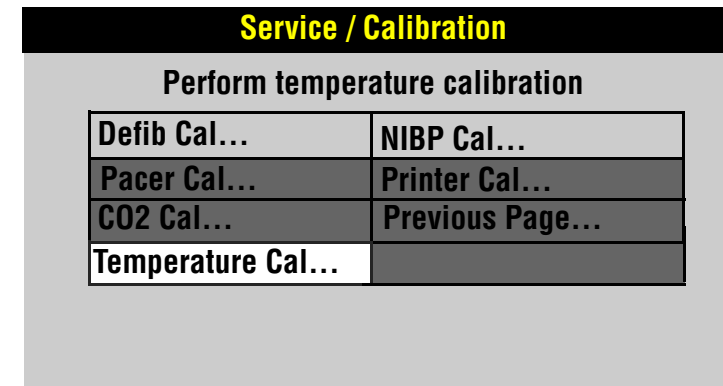

Figure 5.13—Calibration selection
3. Select Calibration from the Service menu. The screen shown in Figure 5.13 appears.